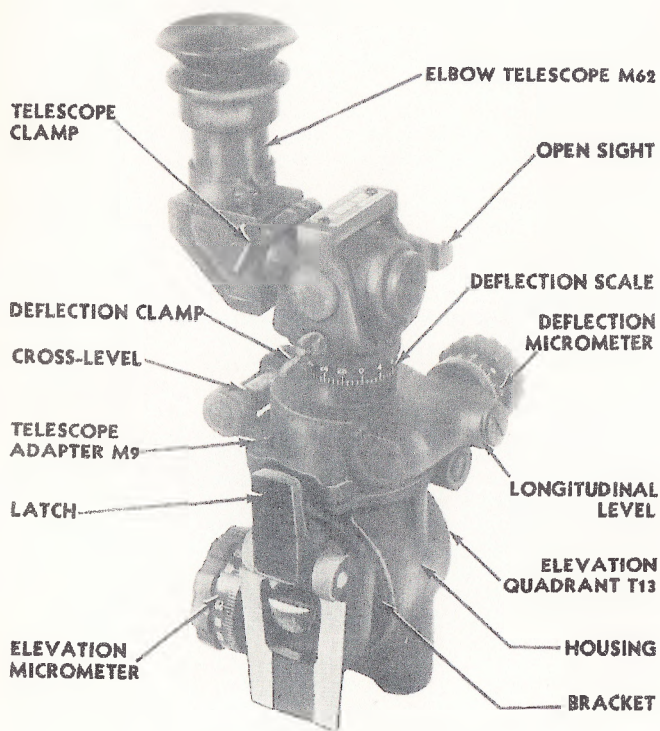
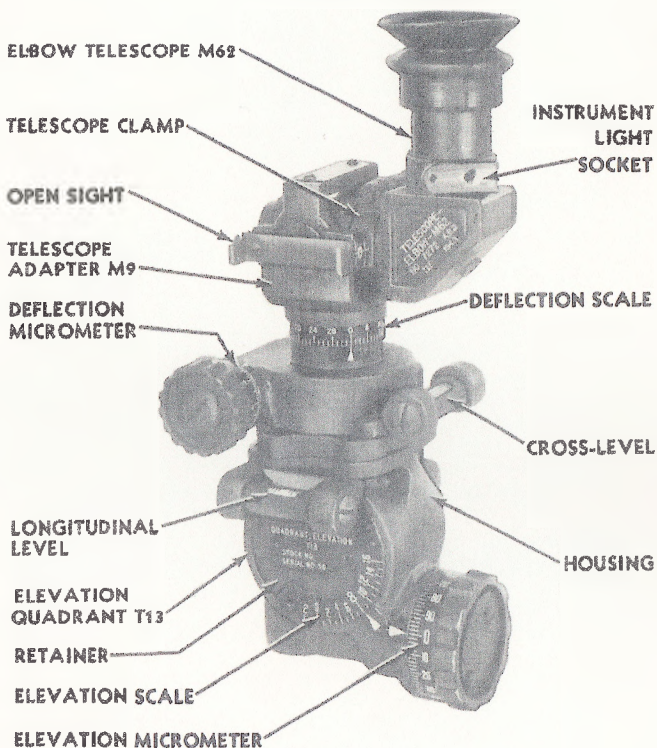

Fig. 33. E19 sight (left view).
Fig. 34. E19 sight (right view).
a. Elbow telescope M62. (1) Elbow telescope M62 (fig. 33) is a 3-power elbow telescope with a field of view of  $12^{\circ}12'$ . It has fixed focus and is designed for normal eyesight and ordinary ranges. The reticle marking is a vertical line and a horizontal line which form a cross at the reticle center.
(2) Elbow telescope M62 fits into telescope adapter M9 which fits onto elevation quadrant T13.
c. Elevation quadrant T13. (1) Elevation quadrant T13 is the foundation of this mortar sight. It provides the means for vertical adjustment of the telescope line of sight.
(2) The quadrant (fig. 34) is mainly composed of a drum-like bracket which extends laterally from a latch that attaches it to the left side of the mortar, a ring-like housing encircling the bracket, and a knob-headed worm set in the housing bottom which engages a threaded groove around the drum. Turning the knob rotates housing on drum, and scales (fig. 34) indicate how many mils telescope line of sight has been raised or lowered.
(3) Housing encircles the bracket vertically. It is formed at the top to receive the telescope adapter mounted on it, and the bottom is tubular crosswise to house the elevation worm so it can drive the bracket drum.
(4) Elevation worm shaft has the elevation micrometer knob on